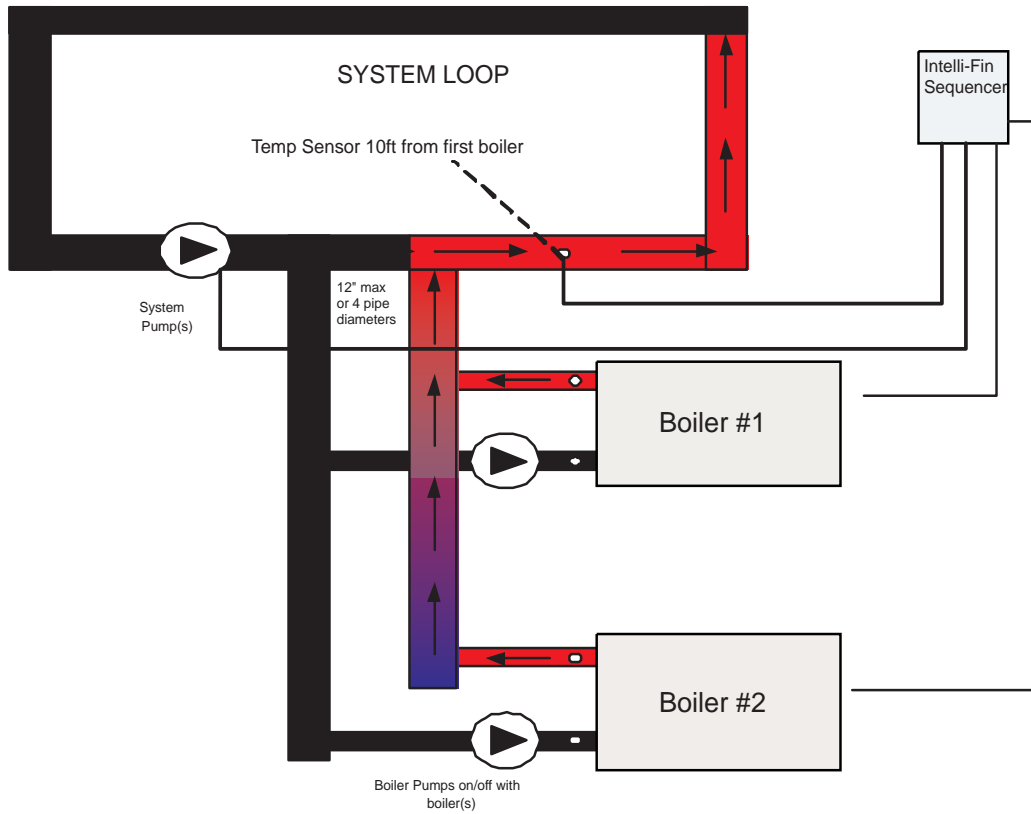

Figure 7 Primary/Secondary Loop
2. The sequencer comes with two (2) remote mount sensors that are shipped loose. These sensors should be installed in the bulbwells that have also been shipped loose.
- a. The supply sensor should be located at least four (4) pipe diameters downstream of the last connection from this secondary piping loop to the primary loop (Fig. 7, page 8).
- b. The return sensor should be located at least four (4) pipe diameters upstream of the first connection from this secondary piping loop to the primary loop (Fig. 7, page 8).
6. Mount the bracket to an exterior wall with four (4) mounting screws (not supplied) through the mounting holes in the bracket.